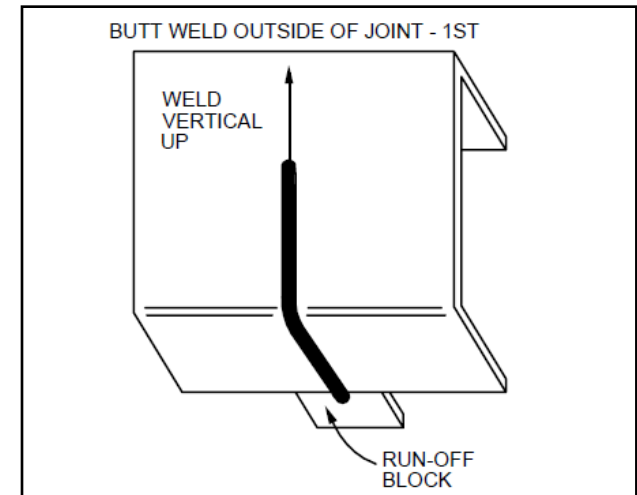
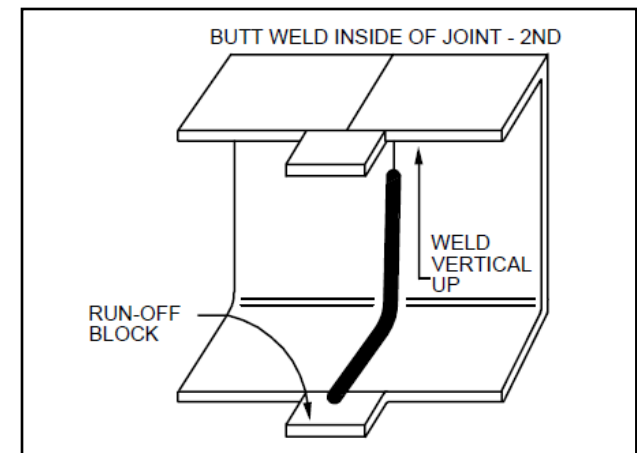

Figure 31 – Welding Outside of Frame
Figure 32 – Welding Inside of Frame
- Tack weld run-off blocks to the edge of the upper and lower flanges of the frame and frame insert (See Figures 31 and 32). This procedure is recommended to eliminate joint edge burnout and to prevent movement during the butt weld procedure.
- Butt weld the ends of the frame insert to the frame. Butt welds on the outside surface of the frame should be done with a single pass, vertical up. (See Figure 31). Butt weld the inside of the joint with a single pass, vertical up. (See Figure 32)